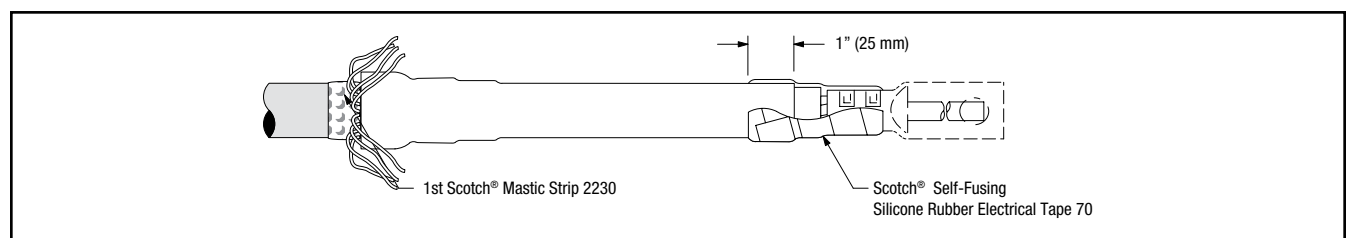

Figure 21
Apply 1 half-lapped layer of Scotch® Self-fusing Silicone Rubber Electrical Tape over at least 1/2" (13 mm) of lug barrel and onto the termination insulator for 1" (25 mm) (Figure 21).
- Bend all of the drain wires away from the cable jacket, towards the bottom of the installed termination body, between 45 degrees and 90 degrees (Figure 21).
- Select a Scotch® Mastic Strip 2230 from kit and remove white release liners. Using light tension, apply a **SINGLE WRAP** of mastic around the cable jacket directly against the bottom of the termination body (Figure 21). Cut off excess.